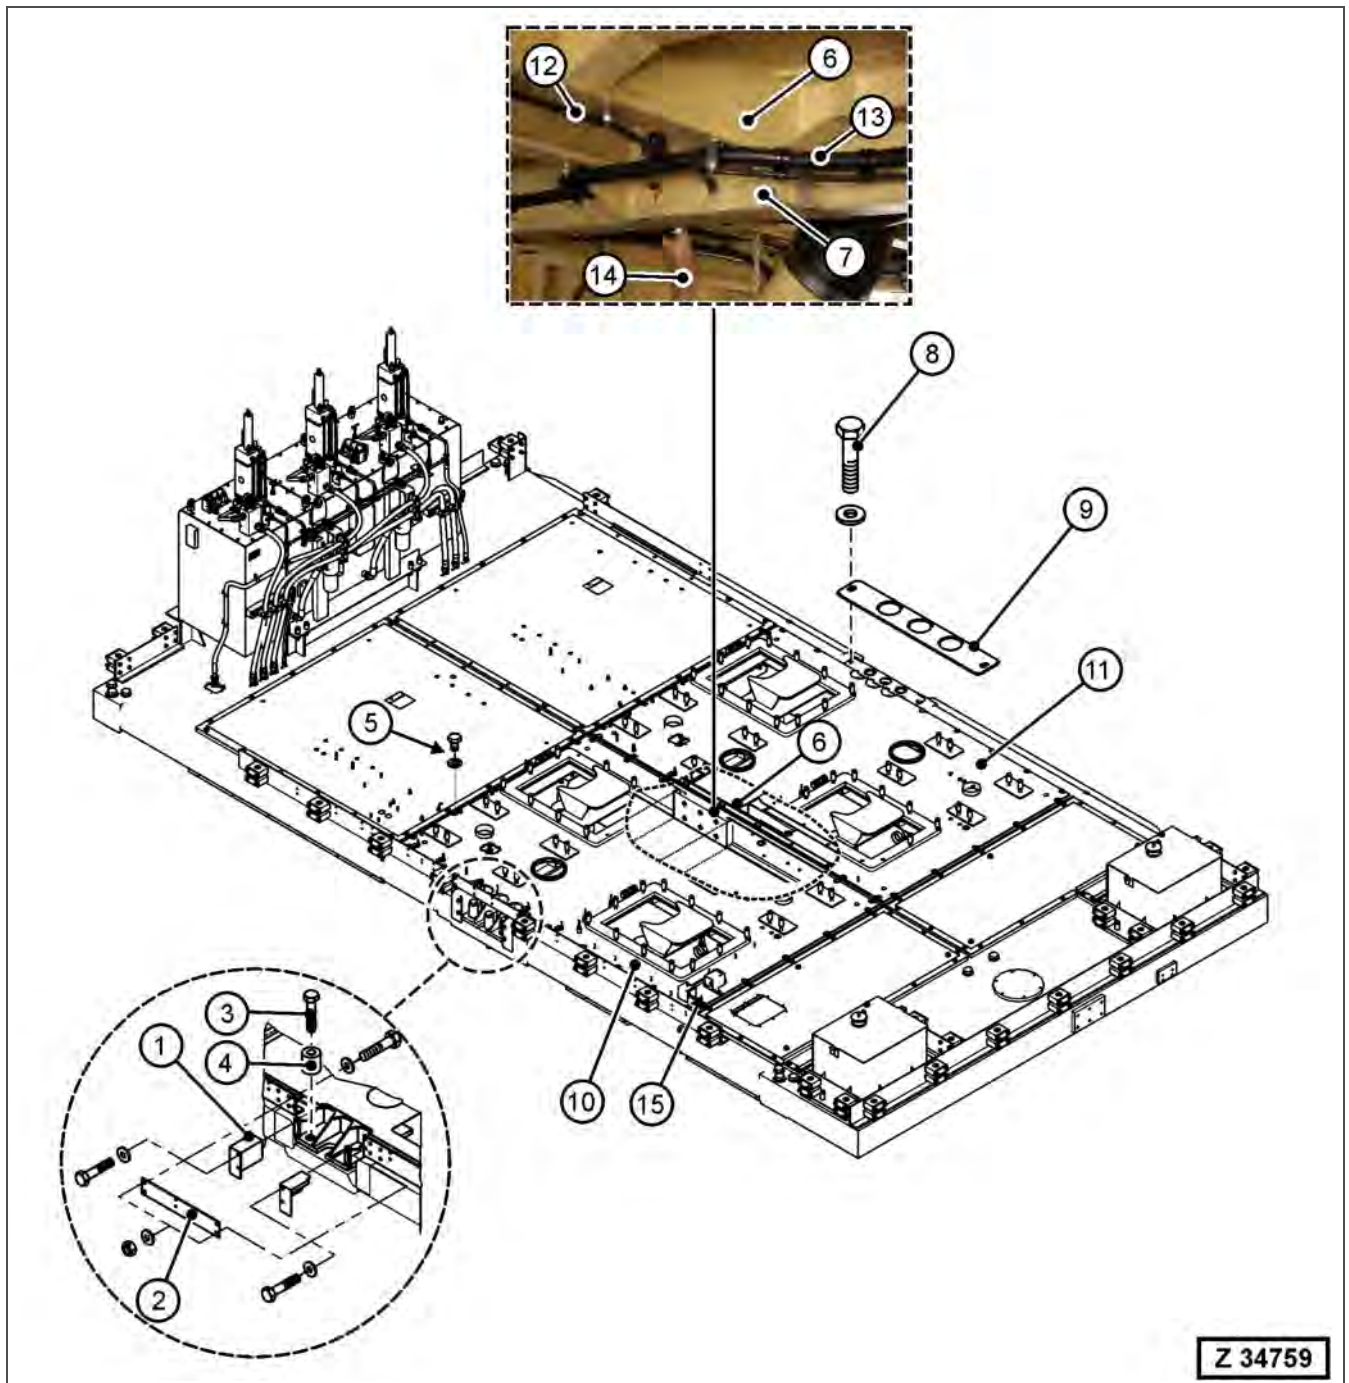

Fig. 3-9
The roof cover plates *engine 1/2* (Fig. 3-9, Pos. 10 & 11) are reinforced from below with bracings and a bar (Fig. 3-9, Pos. 6), which are mounted ever with six bolts at the frame work and the machinery house post.
1. Remove the air intake system, refer to section 3.2.3.1 on page 3-38 from the corresponding roof cover plate. Also disconnect the dedusting hose (Fig. 3-9, Pos. 14) from the corresponding roof cover plate.
2. Clear the wire harnesses (Fig. 3-9, Pos. 12) of the air intake system from the corresponding roof cover plate and the bar (Fig. 3-9, Pos. 6).
3. Clear the wire harnesses (Fig. 3-9, Pos. 13) at the bar's mounting flanges (see detail in Fig. 3-9).